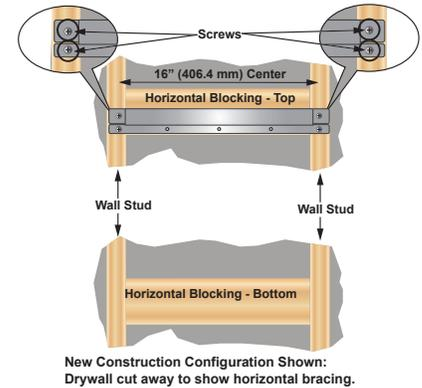

Figure 5 - Wall Bracket Installation
- 1 Secure the wall mounting bracket with the four supplied lag bolts to the wall studs. See Figure 5. **DO NOT** secure to drywall only.